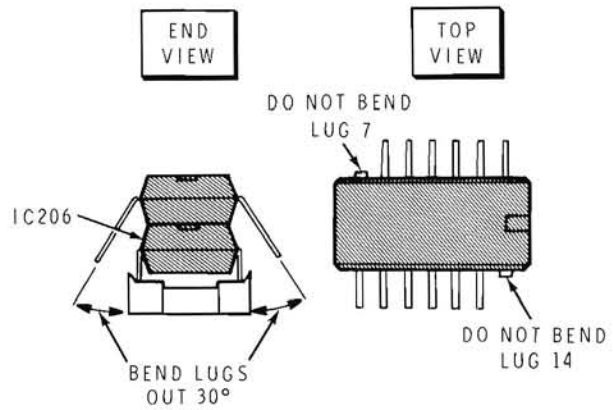
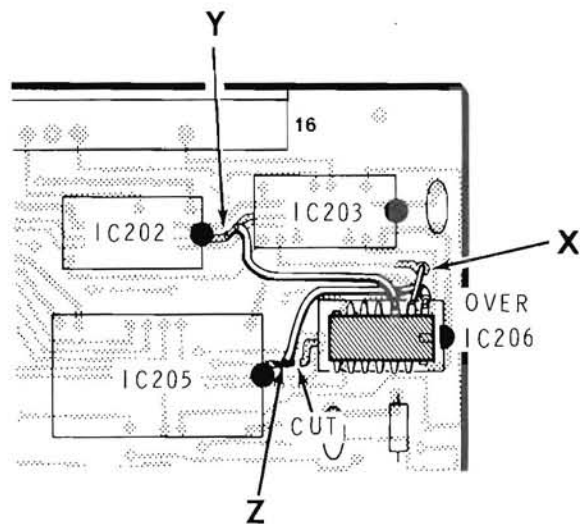

Figure 2
Figure 3
- ( ) Refer to Figure 2. Except for pins 7 and 14, bend all the leads of the 7402 IC out 30° as shown. Pins 7 and 14 should still be perpendicular to the bottom of the IC.
- ( ) Orientate the IC as shown in Figure 3. Place the IC directly on top of IC206 as shown in Figure 2. Solder pins 7 and 14 of the top IC to pins 7 and 14 of IC206.